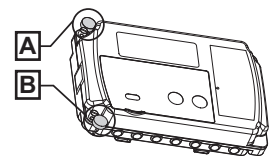
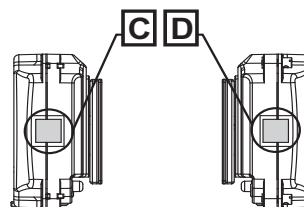

Fig. 6
Fig. 7
13. Place the seals (Fig. 6 – wire, Fig. 7 – sticker)